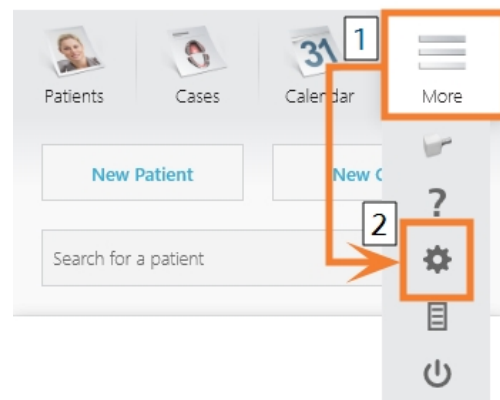

FIG. 17 – OPENING THE SETTINGS IN TRIOS DESIGN STUDIO
14. In the menu bar, select **More**. In the drop-down menu, select the **Settings** icon (🔗 Fig. 17 – see below).